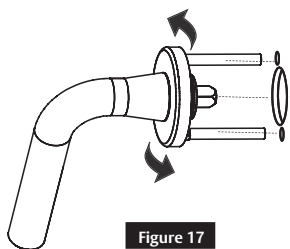

Figure 17
3. Retract latches by rotating lever and opening door. (Figure 17)